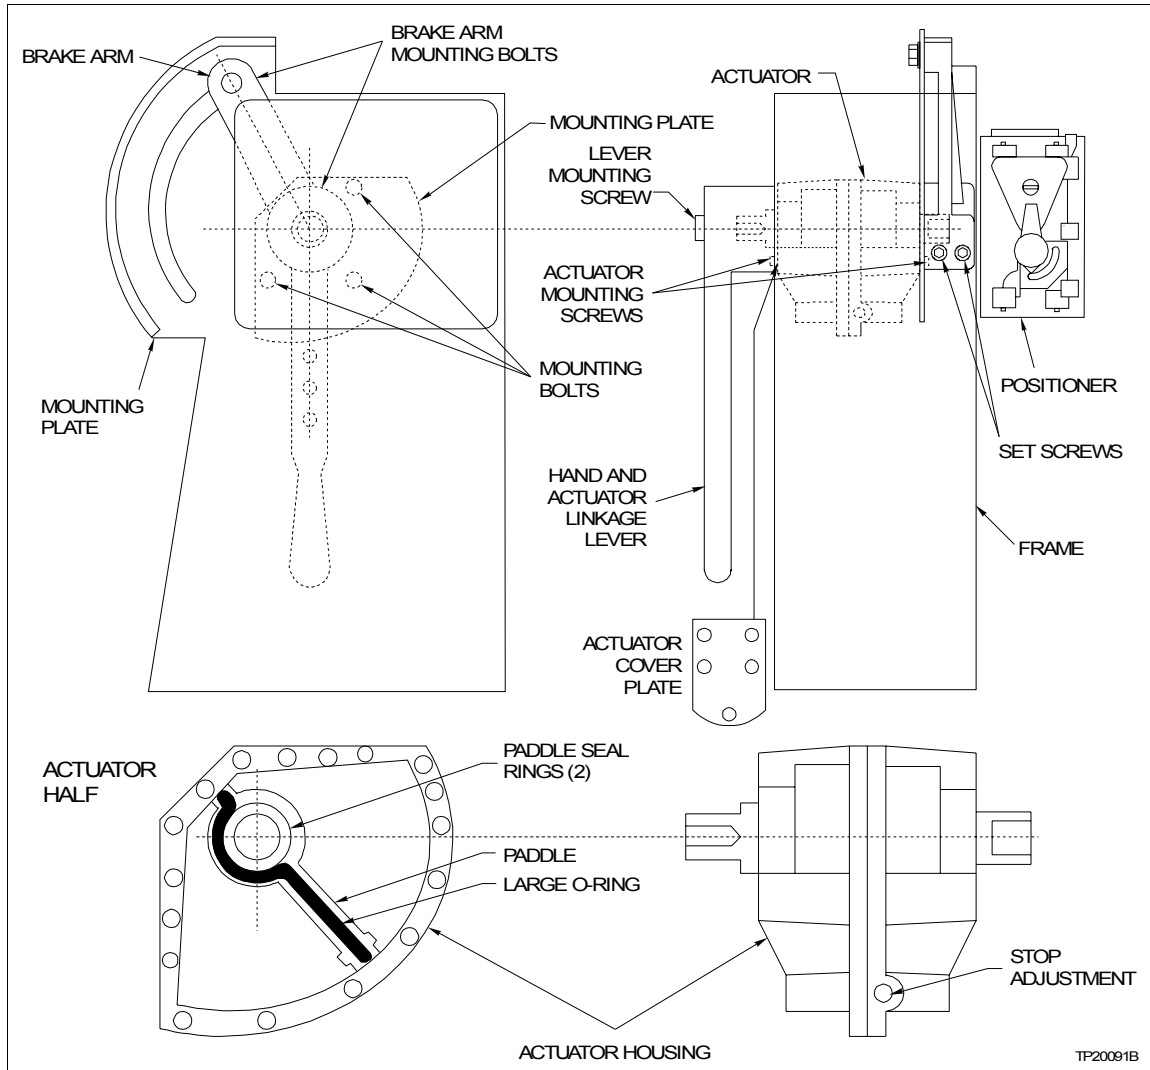

Figure 8-1. Rotary Vane Removal and Seal Replacement
**NOTE:** Refer to Figure 8-1.